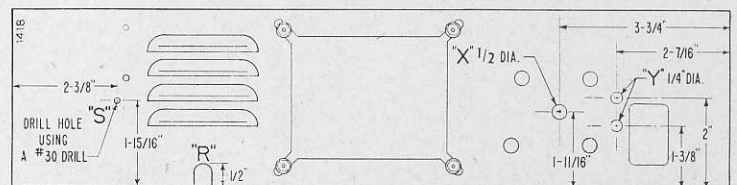

Figure 2. Back View of TV Chassis, Showing Locations of Holes for Mounting Adapter-Converter sub-chassis and Color Control Panel.
Step 3. Mount the Adapter-Converter sub-chassis as follows. See Figures 2, 3, 6, 7 and 8.
- a. Remove the mounting nuts from the Height Control (R408) and the Vert. Lin. Control (R410) on the TV chassis. Mount the escutcheon plate for the color switch over the control shafts and replace the mounting nuts. Using the escutcheon plate as a template, drill a 1/2" hole at point "X" and two 1/4" holes at points "Y"; see figure 2. Note: If the set is a TV only model, the holes at points "Y" can be omitted. The wafer over the rectangular cut-out (to the right) can be removed and the Horiz. Hold and Horiz. Drive trimmers can be adjusted through the hole.
- c. Using a half inch round file, file a half round cut-out in the chassis at point "R"; see figure 2.
- e. Mount the color control panel to the rear of the chassis using the two power transformer mounting screws. With a number 30 drill, drill a hole in the chassis at point "S"; see figure 2. Use the remaining mounting lug on the color control panel as a template for drilling hole. Dress the wiring from color control panel into cut-out in the chassis below the panel.